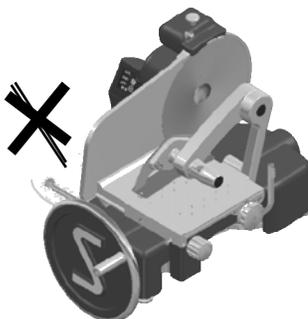

Fig.27
- Do not pull the slicer or the power cord (Fig.27) to disconnect the plug from the power supply.